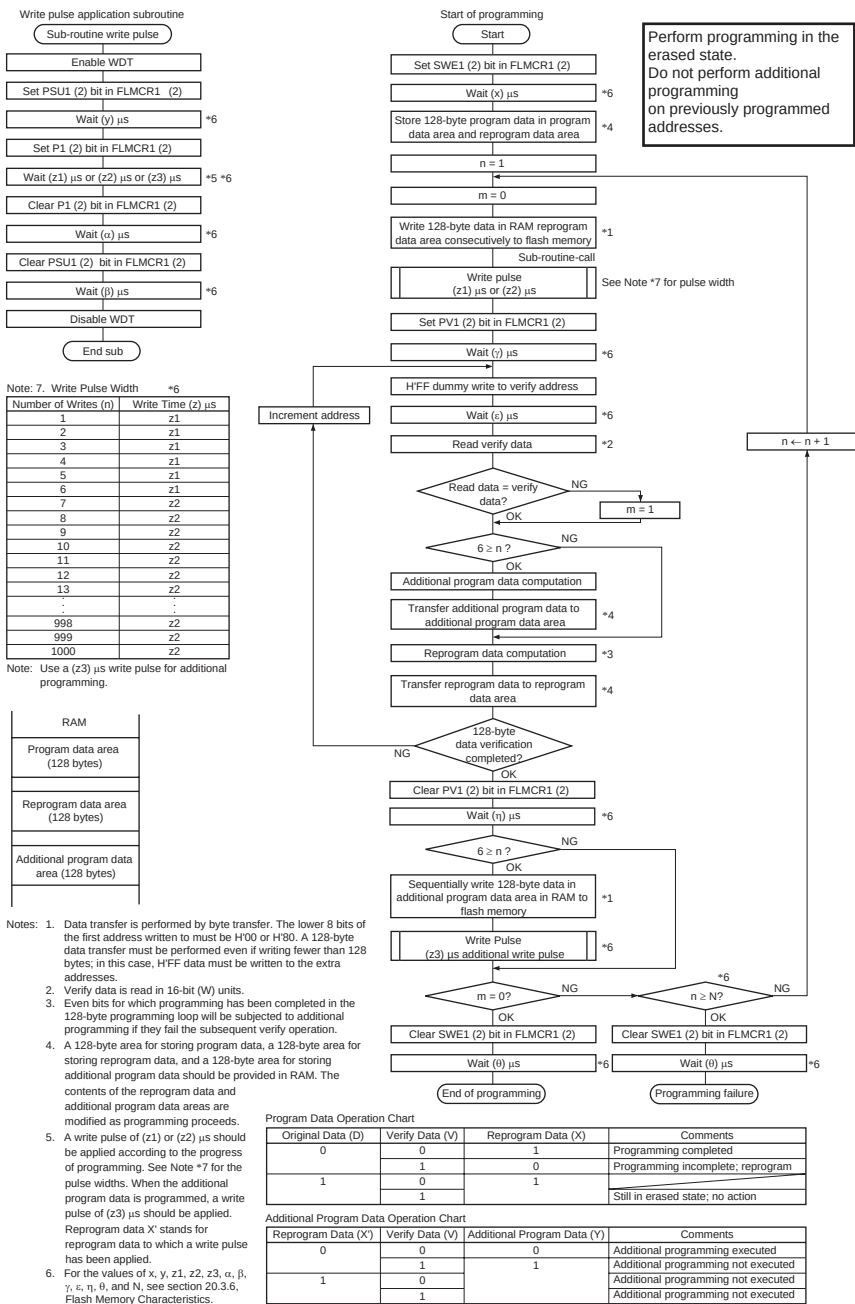

Figure 17.45 Program/Program-Verify Flowchart
Follow the procedure shown in the program/program-verify flowchart in figure 17.45 to write data or programs to flash memory. Performing program operations according to this flowchart will enable data or programs to be written to flash memory without subjecting the device to voltage stress or sacrificing program data reliability. Programming should be carried out 128 bytes at a time.
After the elapse of a given programming time, the programming mode is exited (the Pn bit in FLMCRn is cleared to 0, then the PSUn bit is cleared to 0 at least $(\alpha) \mu s$ later). Next, the watchdog timer is cleared after the elapse of $(\beta) \mu s$ or more, and the operating mode is switched to program-verify mode by setting the PVn bit in FLMCRn. Before reading in program-verify mode, a dummy write of H'FF data should be made to the addresses to be read. The dummy write should be executed after the elapse of $(\gamma) \mu s$ or more. When the flash memory is read in this state (verify data is read in 16-bit units), the data at the latched address is read. Wait at least $(\epsilon) \mu s$ after the dummy write before performing this read operation. Next, the originally written data is compared with the verify data, and reprogram data is computed (see figure 17.45) and transferred to the reprogram data area. After 128 bytes of data have been verified, exit program-verify mode and wait for at least $(\eta) \mu s$, then clear the SWEn bit in FLMCRn to 0, and wait again for at least $(\theta) \mu s$. If reprogramming is necessary, set program mode again, and repeat the program/program-verify sequence as before. However, ensure that the program/program-verify sequence is not repeated more than (N) times on the same bits.